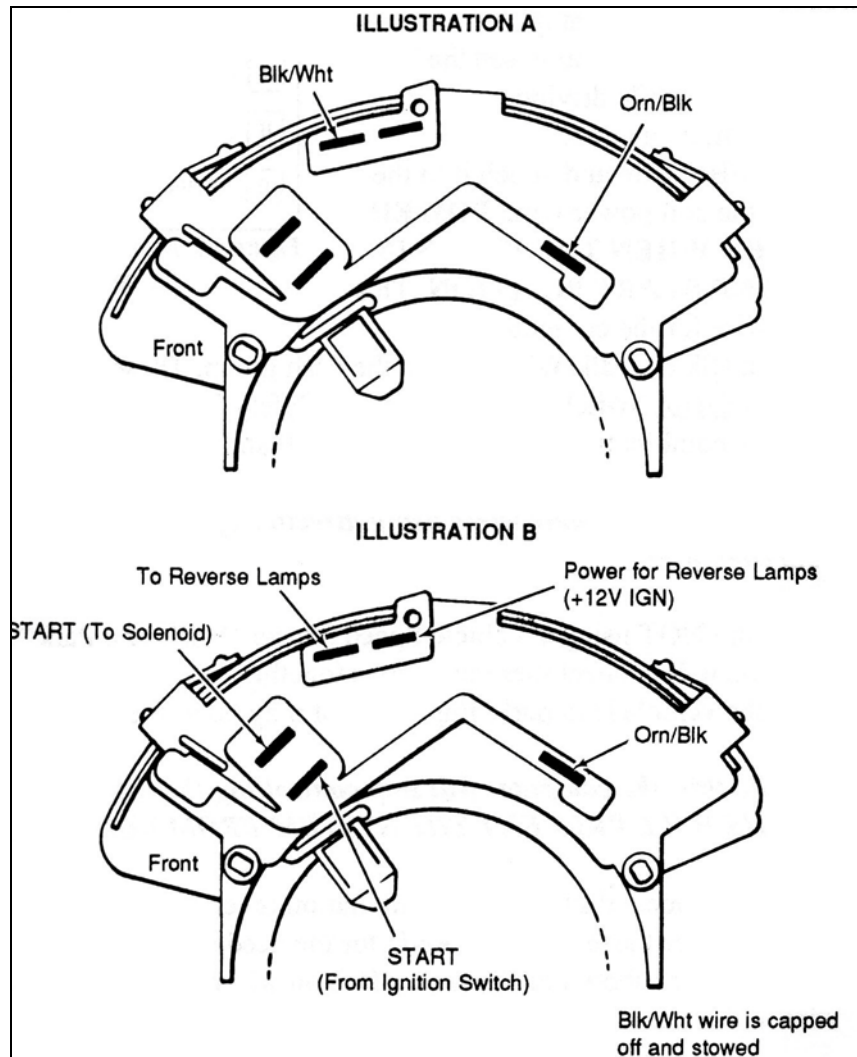

Figure 6.4 A & B Neutral Safety Switch
- 6.1.4** Locate the Orn/Blk and Blk/Wht wires in the dash group. These two wires are for the Park/Neutral Selector Switch, NOT the Neutral Safety Switch. If you have a GM column then you can use the combination switch P/N 15679680 and wire it as shown in **FIGURE 6.4**.
- 7.4.2** Purple wire tagged BRAKE SWITCH attaches to the brake switch shown in **FIGURE 6.4**